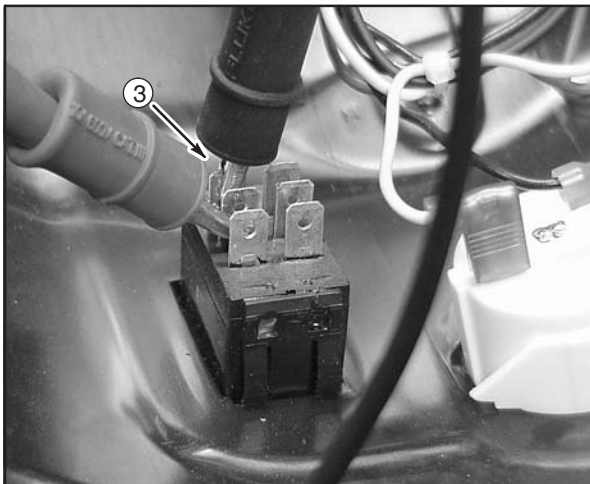

Fig. 29
7. Now attach test lead to top terminal (3) on switch (blue wire), Fig. 29.